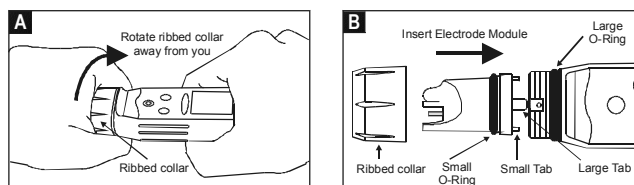

Figure 13: Removing collar & inserting electrode
- With dry hands, grip the ribbed tester collar with electrode facing you. Twist the collar counter clockwise (see Figure 13-A). Save the ribbed tester collar and O-ring for later use.
- Align the four tabs of the new electrode module so that they match the four slots on the tester (see Figure 13-B).